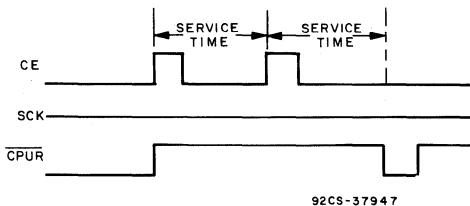

Fig. 10 - Watchdog operation waveforms.
3. Watchdog Reset (actually a non-transfer) - Fig. 10
**WATCHDOG RESET - (See Fig. 10.)**